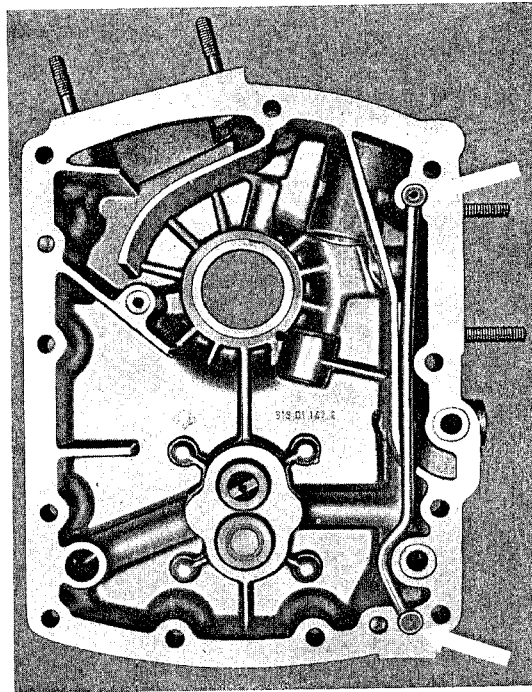

Fig. 211
3. Place one rubber plug on each end of the back-pressure oil line and install it in the timing case cover so that the upper plug has the open end, and the lower one the closed end toward the crankcase (Fig. 211).